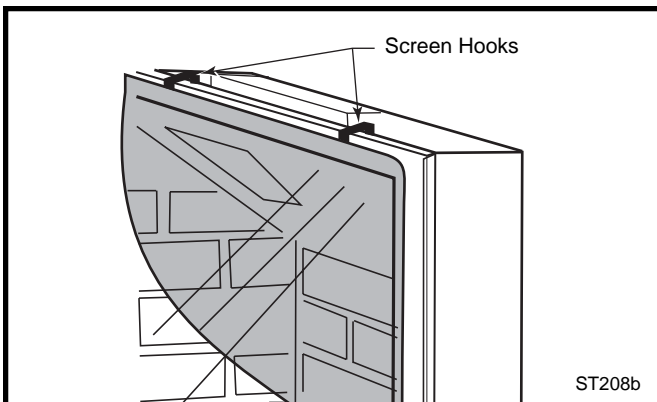

Fig. 5 Lift screen from firebox.
- Remove the screen frame. (Fig. 5)